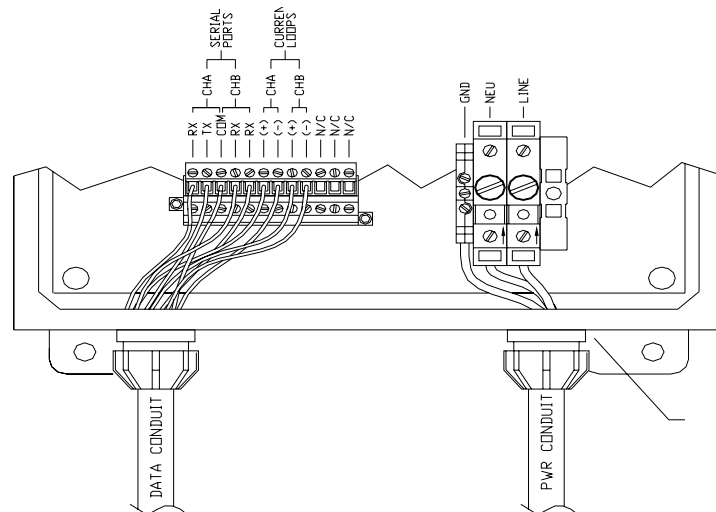

Figure 11: Signal and power connection diagram showing customer supplied conduits and hubs.
2. Install a ½" conduit hub into the knockout located at bottom left side of the analyzer (see **Figure 11** on page 24). The conduit hub should be rated NEMA 4X.